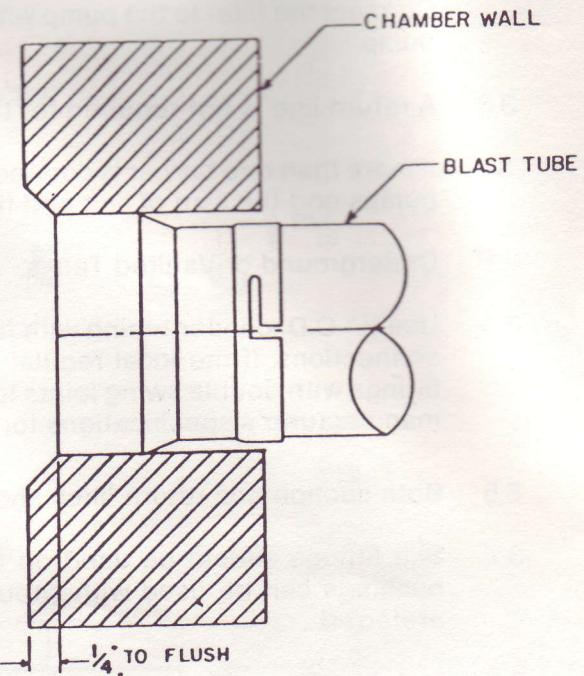

Fig. 2
- 5.4 The end of the air tube should be $\frac{1}{4}$ " back to flush with inside of the chamber wall. Improper insertion will distort the fire. See Fig. 2.